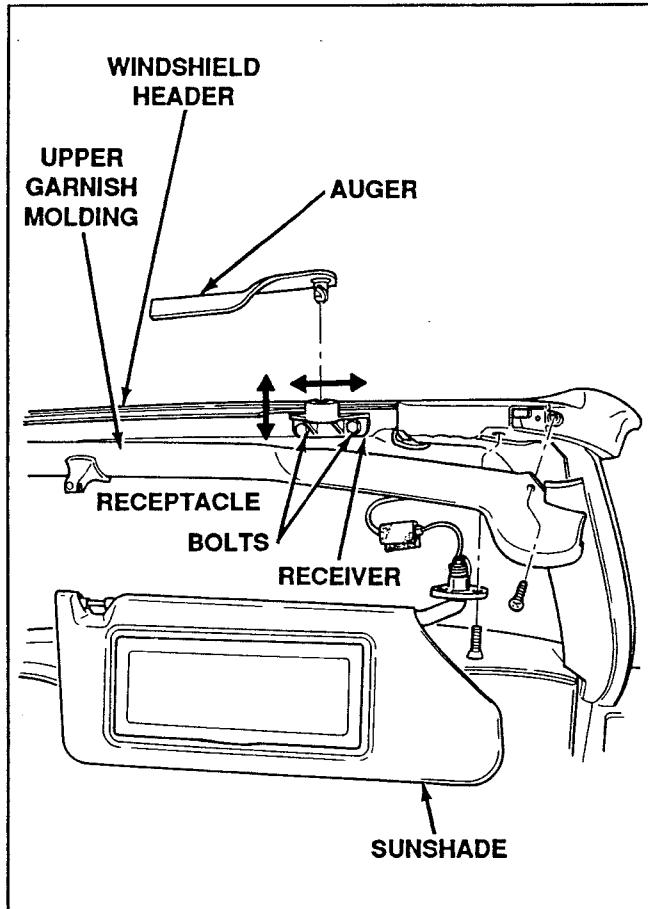

Figure 32. Access Receiver
3. Lower the molding (Fig. 32).